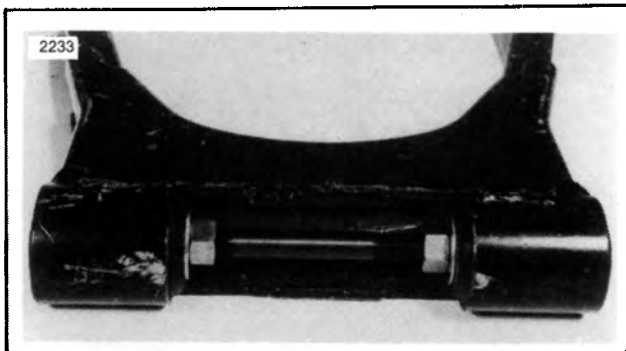

Figure 7-29. Spreading Clevblocs
2. Position swing arm at rear of transmission. If transmission boss will not fit back into the swing arm, use the following procedure: See Figure 7-29. Install CLEVBLOC SPREADING TOOL, Part No. HD-33805, between swing arm clevblocs as shown. Turn nuts spreading clevblocs apart to approximately 4-9/16 in. Loosen nuts and remove tool.